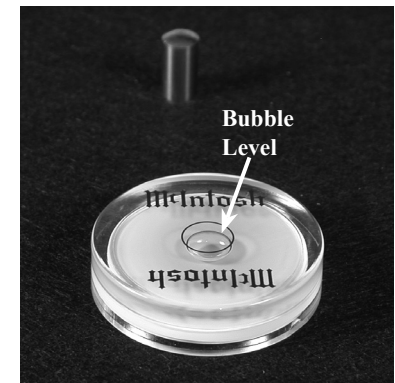

Figure 5
6. Locate the McIntosh Bubble Level and place it on the Record Mat. Refer to figure 5.